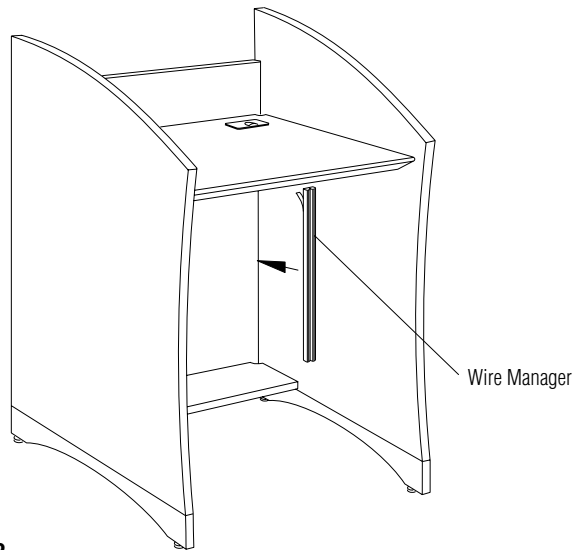

Figure 2
10. Attach self-adhesive wire manager to lower right corner of study unit. Place any electrical cords inside wire manager (Figure 2).